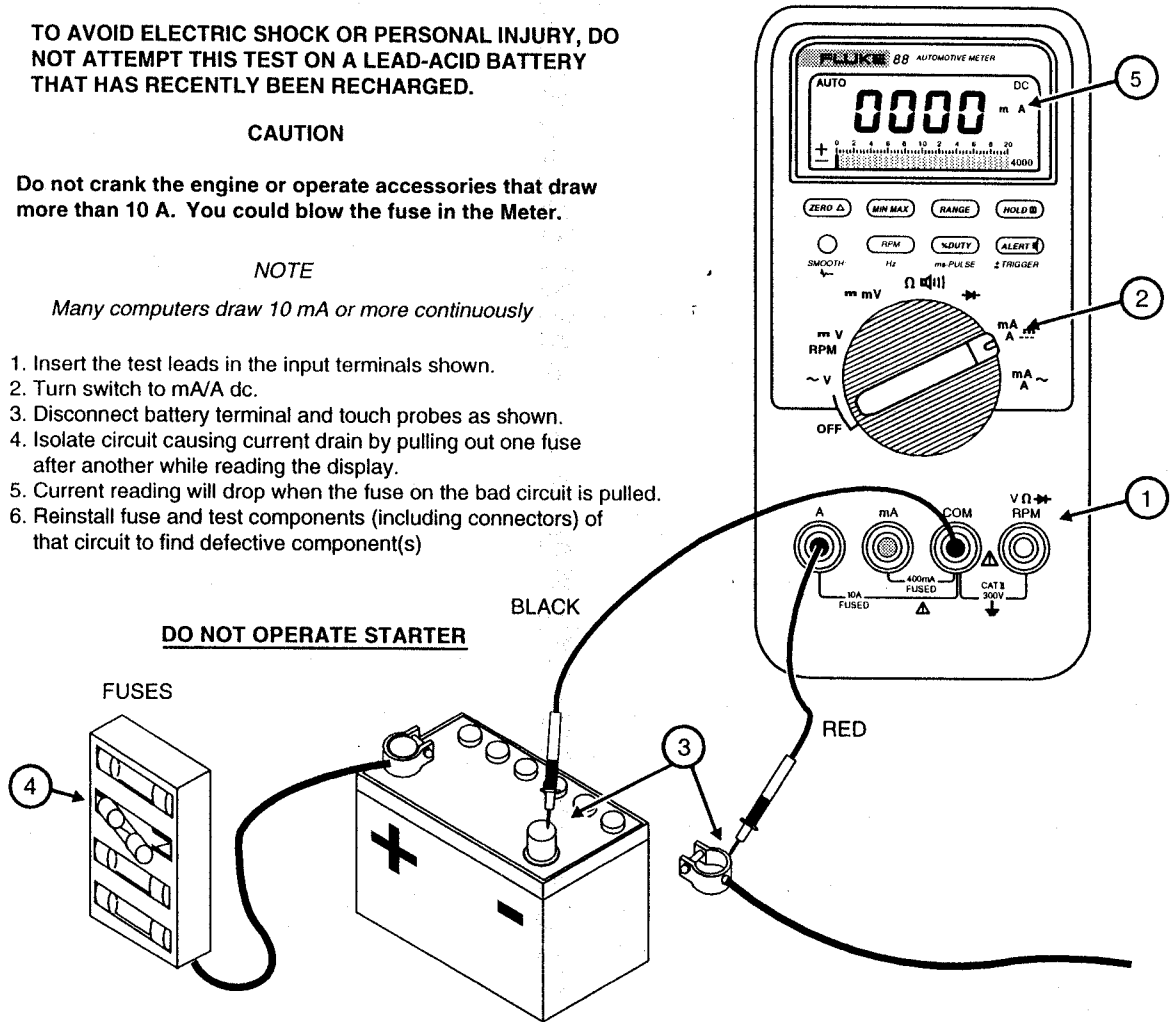

Figure 8. Isolating Circuit Causing Current Drain
5. Touch the red probe to the side of the break closest to the power source and the black probe closer to ground. This puts the Meter in series with the circuit being tested, causing all current to flow through the Meter (see Figure 8). *Current must always be measured with the Meter in series with the circuit.*
Figure 8 shows how to measure current to isolate a circuit drain.